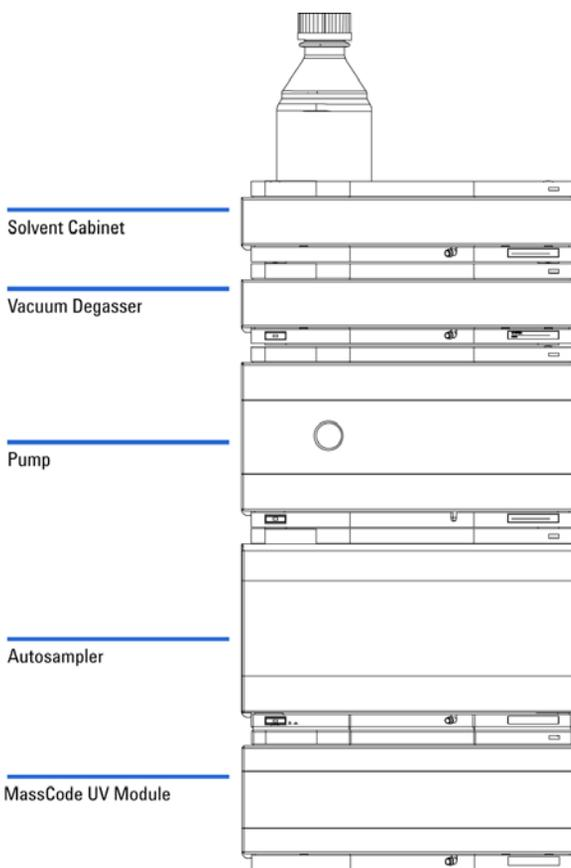

Figure 2 Recommended stack configuration for LC modules of the MassCode PCR system including MassCode UV Module (front view)
To ensure optimum performance of the MassCode UV module in the Agilent 1260 series system, use the configuration shown in Figure 2. This configuration optimizes the system flow path, ensuring minimum delay volume and minimizes the bench space required.
- 3 Place the autosampler module, isocratic pump module, vacuum degasser module, and solvent cabinet on top of the MassCode UV module, in the stack configuration shown in Figure 2 on page 22.